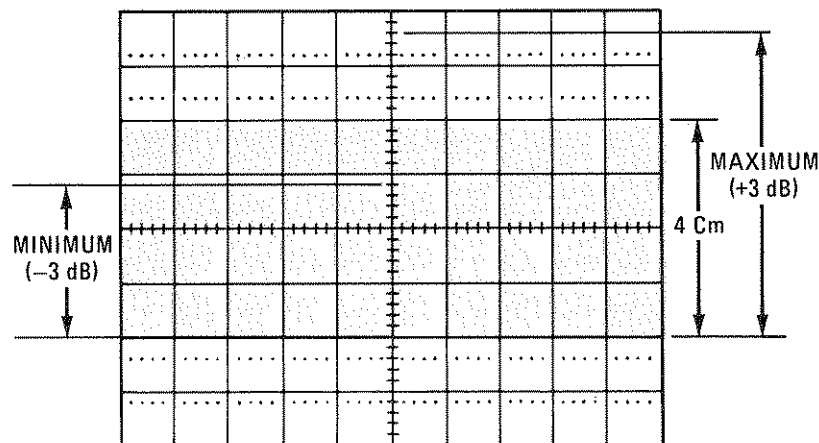

Figure 5-32. FM Flatness Tolerance, DC to 2 MHz
10. Check that ± 3 dB flatness specification is met between DC and 2 MHz as follows. Manually sweep the function generator frequency between DC and 2 MHz. On the oscilloscope, note maximum and minimum response points (Figure 5-32). Maximum point (+3 dB) can be up to 5.6 divisions, and minimum point (-3 dB) can be down to 2.8 divisions.